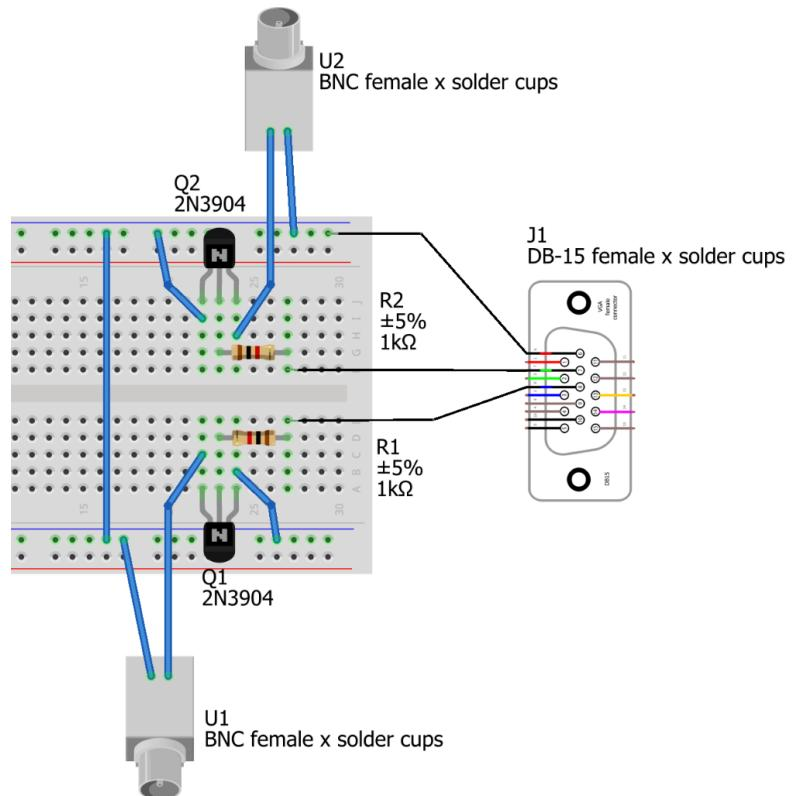
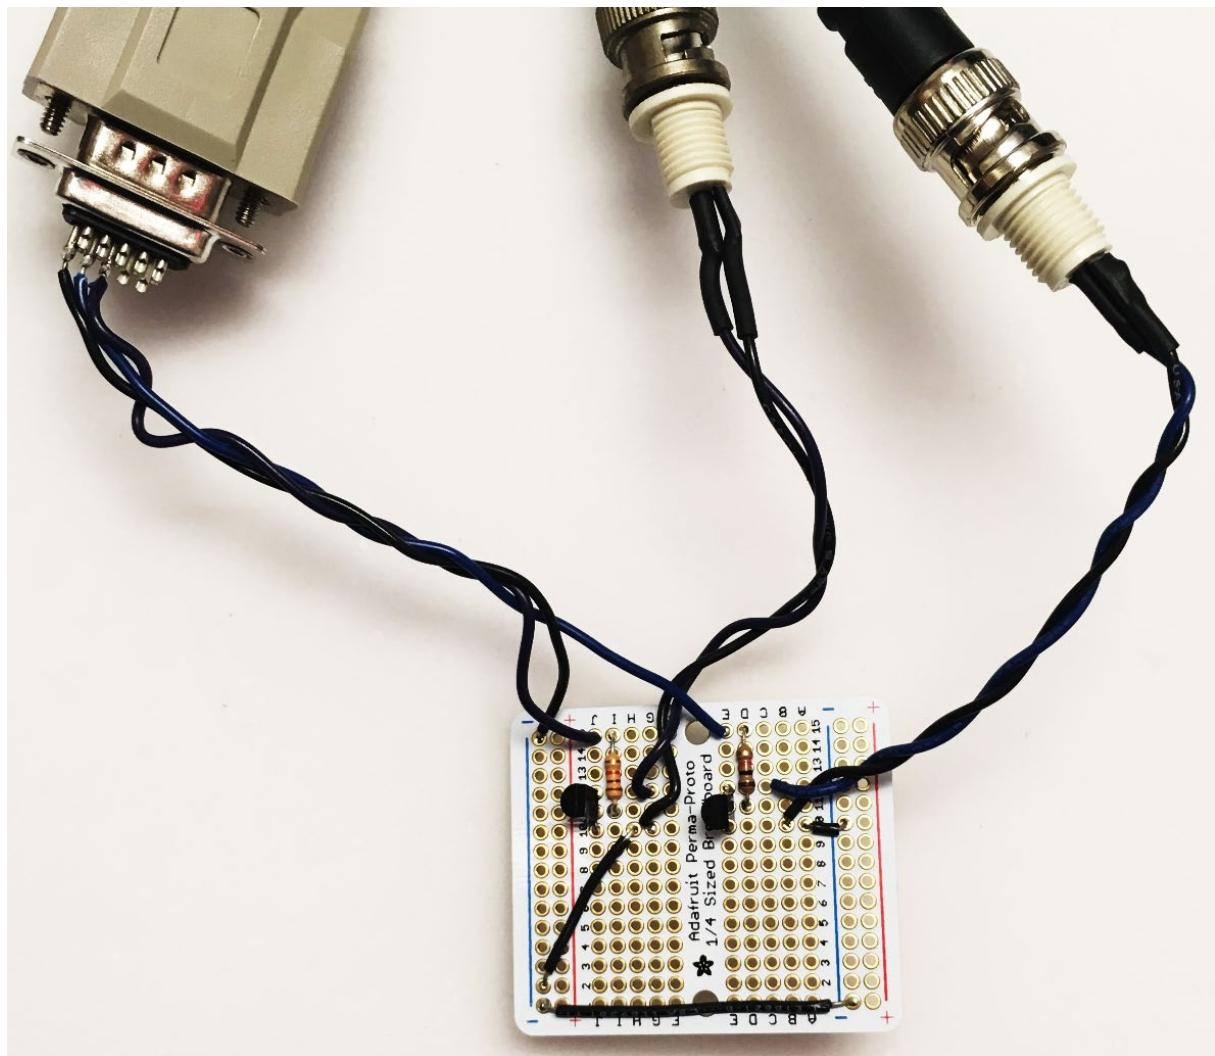

Figure 103 Camera trigger adapter circuit diagram
Figure 105 Camera trigger adapter circuit, with cables attached
- Solder the transistors, resistors, and connector leads onto the protoboard as shown in Figure 104 and Figure 103, and as also described in the net list below. See Figure 105 for the finished product.